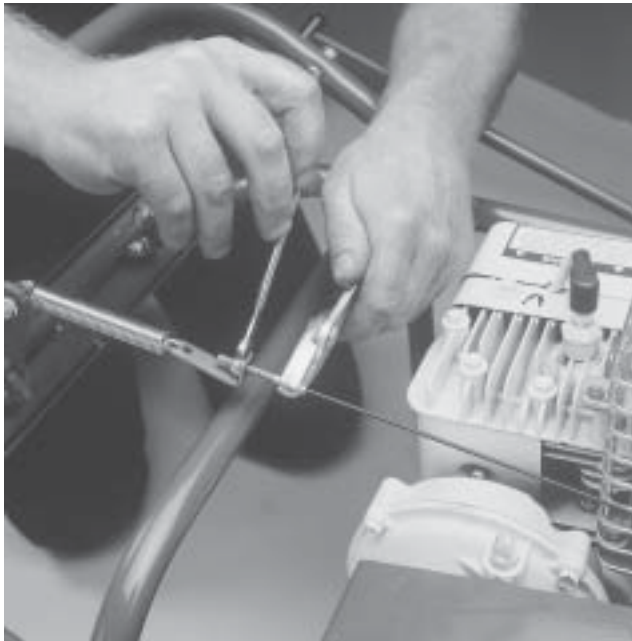

Figure 12
4. Adjust cable to obtain $\frac{3}{4}$ " to $1 \frac{1}{4}$ " extension of the clutch spring when clutch is engaged. (see Figure 12).